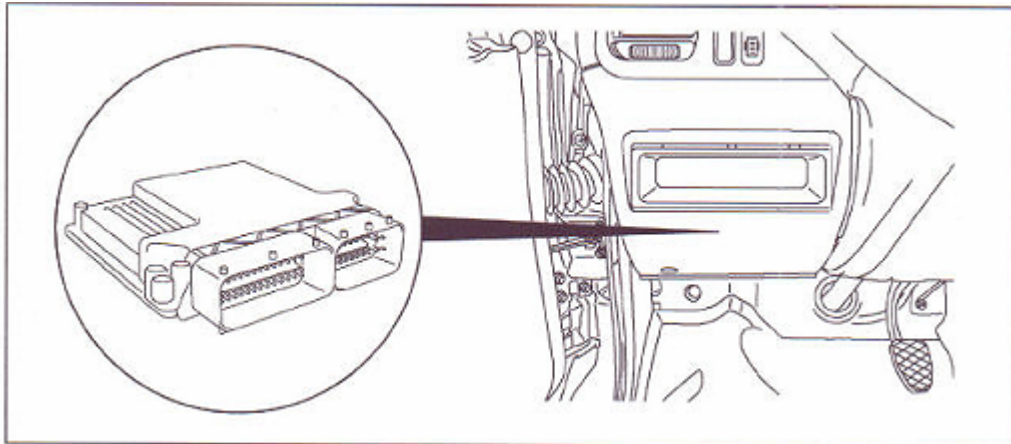

Figure 1. Location of the Engine Control Module (ECM)
1. Choose Engine in the System Select screen and Miscellaneous Functions in the Select Function Screen (figure 1).